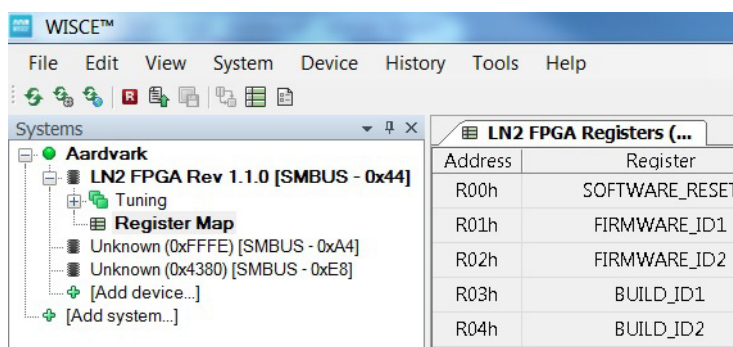

Figure 3-1. Devices Found by WISCE
2. Run WISCE. Upon initialization the system detects the Aardvark I2C Host Adapter and displays all devices connected to the I2C bus as shown in Fig. 3-1. The device shown with I2C slave address 0xE8 corresponds to TCA9539 I/O expander.